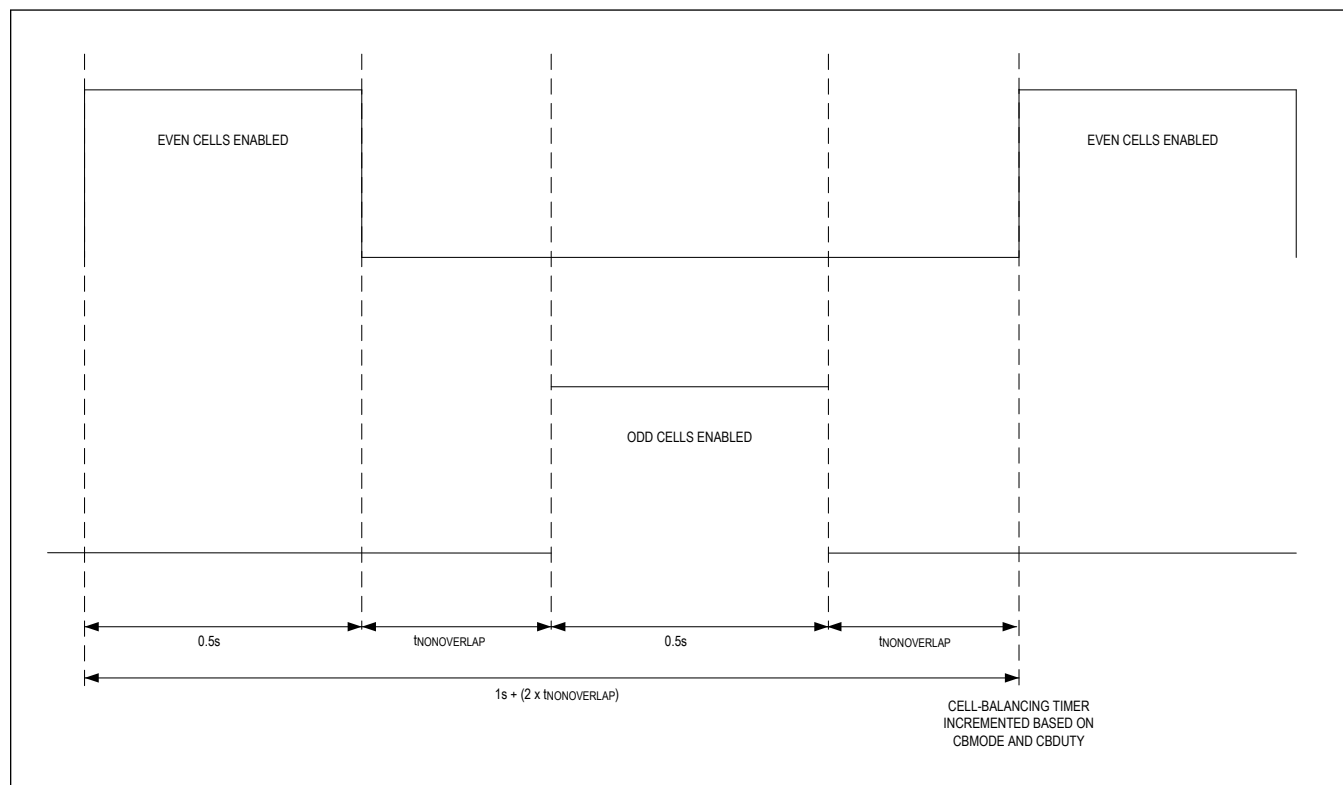
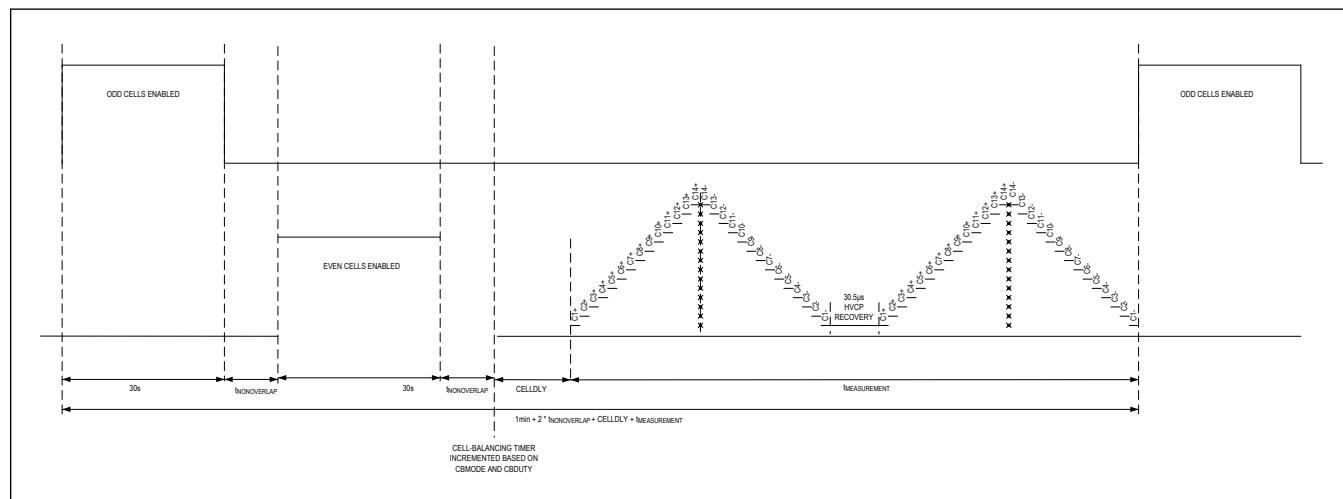

Figure 35. Auto Even and Odd Cell Balancing without UV Detection
Figure 36. Auto Even Odd Cell Balancing with UV Detection, ADC with OVSAMPL
**Note:** Figure 35 and Figure 36 are not drawn to exact timescale. Some sections have been exaggerated for visibility. See the Cell-Balancing UV Detection section for further details and recommendation for embedded measurements during